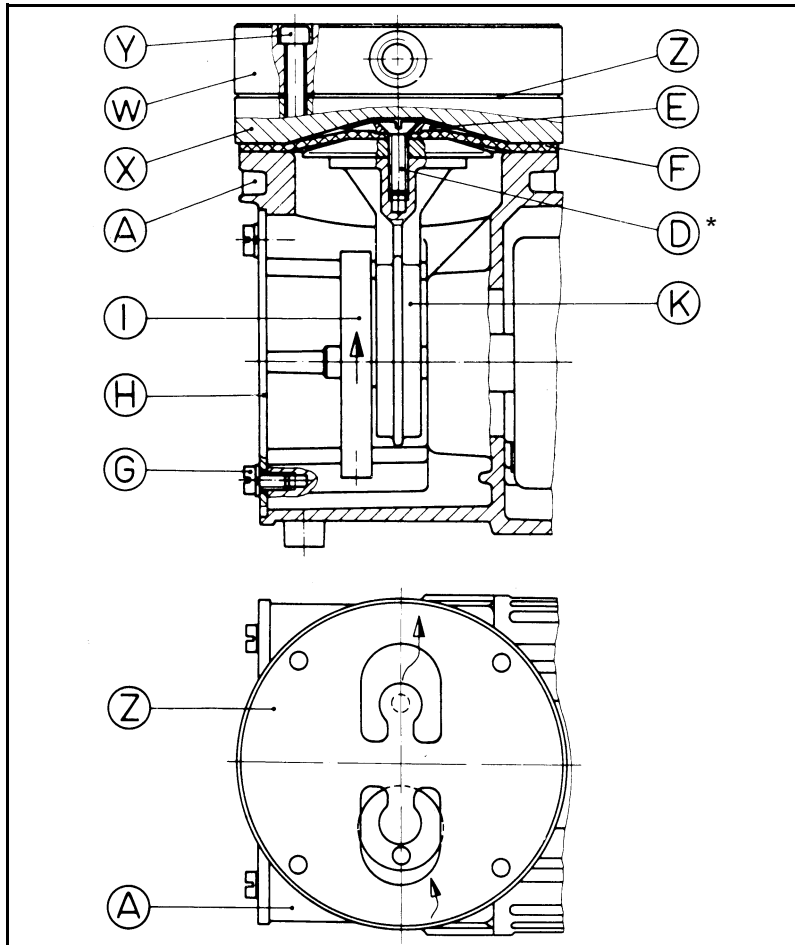

Fig. 13: Pump parts for versions with stainless steel head
**According to Fig. 13
12. Place the new valve plate Z on the intermediate plate X (for orientation: see fig. 13).